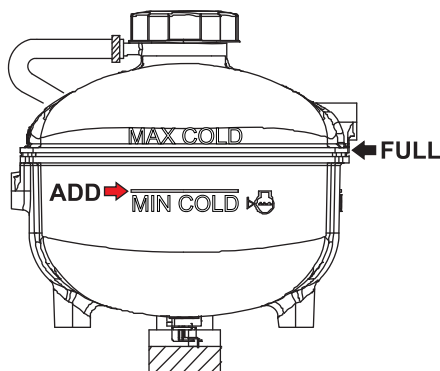

Figure 45. Coolant Reserve Tank
1. Verify that the coolant level in the coolant reserve tank is between the **MAX** and **MIN** markings as shown in Figure 45.